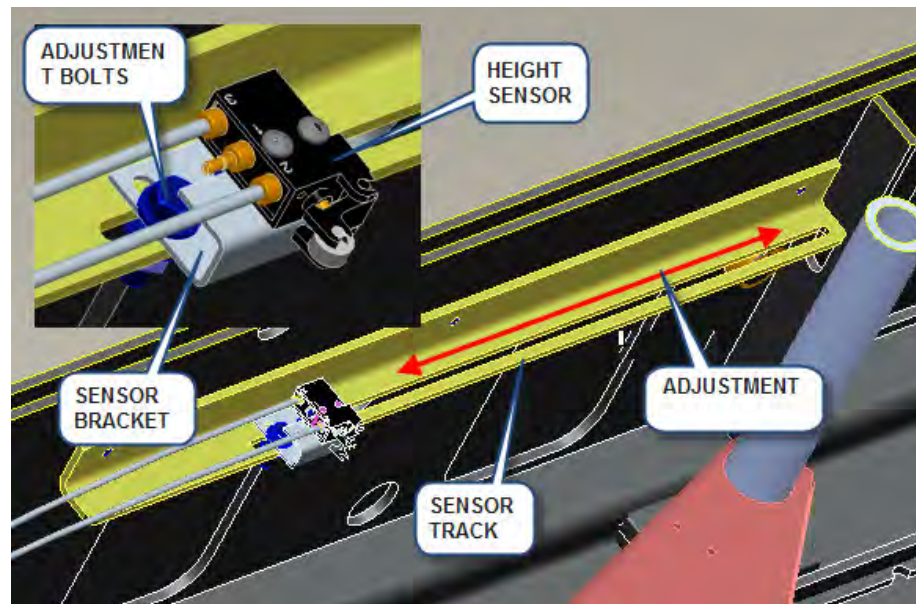

Figure 20 - Upper limit proximity sensor
2. The limit switch (see **Figure 20**) should automatically stop the lift once the 72" working height (bottom of baseframe to top of runway) is reached.